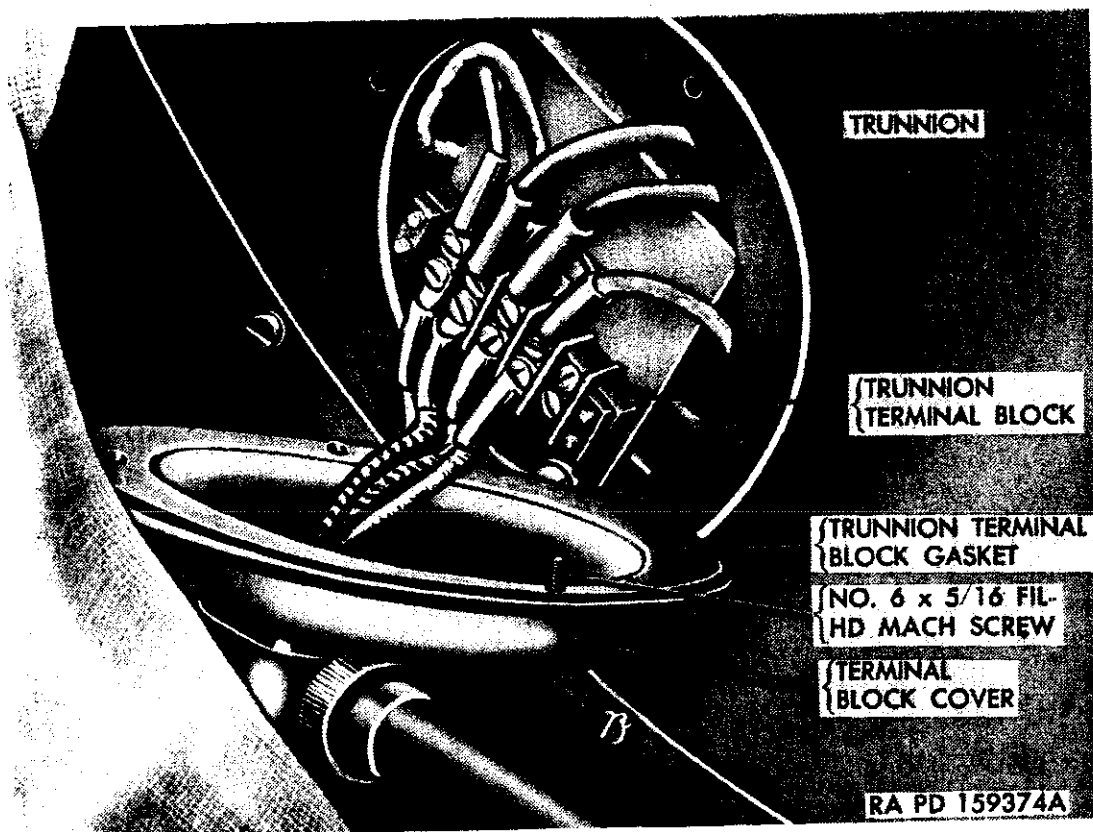

Figure 23. Terminal block—left trunnion.
- (2) When a mount that is taken from a vehicle having a cab is to be used to fire the guns at any angle, including the "dead area," the elevation and azimuth interrupter switches should be cut out. When a jumper is not available, the interrupter switches may be disengaged as described in (a) through (c) below.
- (a) Remove the terminal block cover (fig. 15) from the right and left trunnions of the mount by removing four machine screws (fig. 23).
- (b) Locate the trunnion terminal block (fig. 23) and make the changes indicated in figure 24 on both terminal blocks.
- (c) Install terminal block cover with four No. 6 x  $\frac{5}{16}$  fillister-head machine screws (fig. 23). With bright yellow paint, stencil the following in large block letters on the right trunnion cover.
- (3) When a mount that is taken from a vehicle having a cab is to be used to fire the guns at any angle, including the "dead area," and a jumper is available, the jumper will be installed to eliminate the area of interrupted fire as described in (a) through (d) below.
- (a) Remove the terminal block covers (fig. 23) of the right and left trunnions.